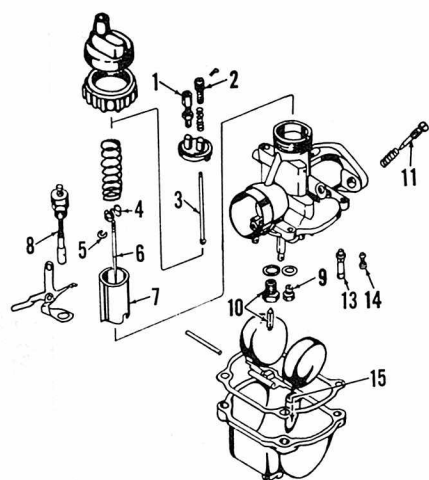

Fig. HK1—Exploded view of Mikuni carburetor used on Hodaka Ace 90. Make certain clip retainer (4) is installed.
**CARBURETOR.** The carburetor used on street models is a Mikuni VM-20-SH3 as shown in Fig. HK1. Idle mixture screw (11) controls air flow and richens the idle mixture when turned in. Normal position of idle mixture screw is 1 1/4 turns open. Screw (2) increases idle speed when turned counter-clockwise. Normal position of clip (5) is third groove from top of needle (6), on 90 cc engines and fourth groove from top on 100 cc engines. Installation of clip in lower groove richens mixture in intermediate range. Standard main jet (9) size is 85 on 90 cc models and 95 on 100 cc models. Distance from float to gasket surface of carburetor body should be 7/8 inch.